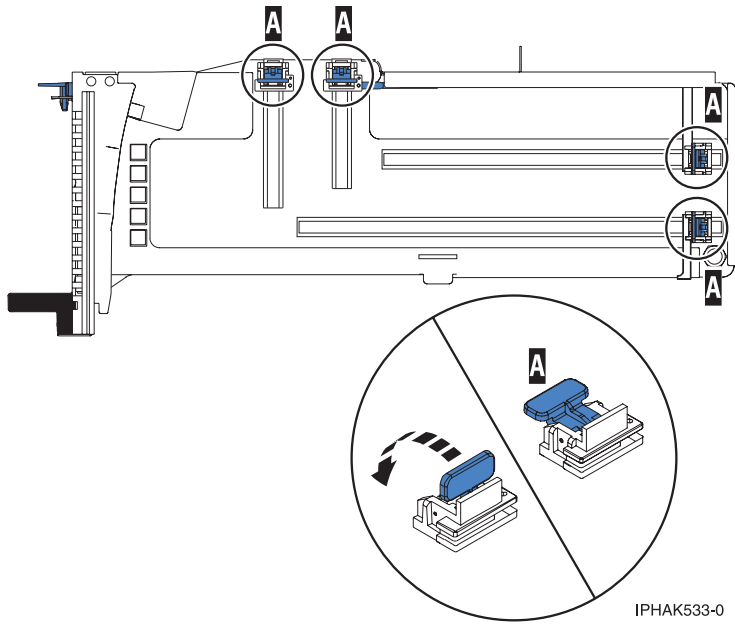

Figure 88. Adapter retainers in a cassette
- a. Ensure that all of the adapter retainers have been pushed out to the edges of the cassette to allow the placement of the adapter. See Figure 88 on page 85.